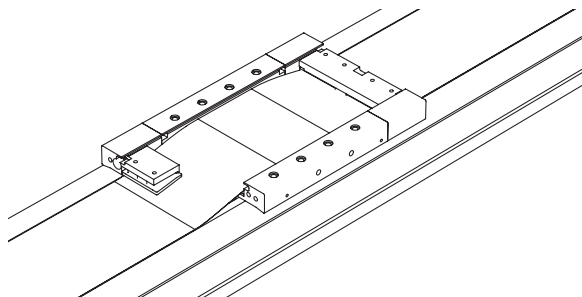

Fig. 7.6 Guiding the cover strip
- ▶ Lay the cover strip on the magnetic strip of the axis base profile and guide it over the carriage profile (see Fig. 7.6).